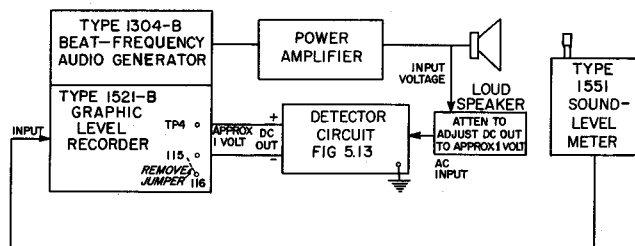

Figure 5.12. System used to measure ratio of output to input as a function of frequency.
output as the voltage fed into the detector circuit (see Figure 5.12). Note that this will not correct variations greater than 18 db.
a. Remove the jumper between terminals 115 and 116 on the etched board. Connect the negative side of the detector circuit to terminal 115 and the positive side to TP4 on the etched board (see Figure 5.12).
b. Connect the rest of the circuit as shown in Figure 5.12, with one exception: the input to the detector circuit is also used as the input to the recorder.
d. With a dc voltmeter between terminal 115 and TP4 (see Figure 5.12 for polarity), adjust the attenuator until the indicated dc voltage is about 1 volt.
g. Vary the attenuator between the loudspeaker and the input to the detector circuit (See Figure 5.12) over a range where the pen does not move significantly. Set the detector input level at midpoint to ensure the maximum correction range.
h. Disconnect the cable going to the recorder input and connect the circuit as shown in Figure 5.12.